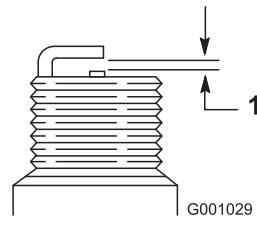

**Figure 21**
1. Remove the boot (Figure 21).